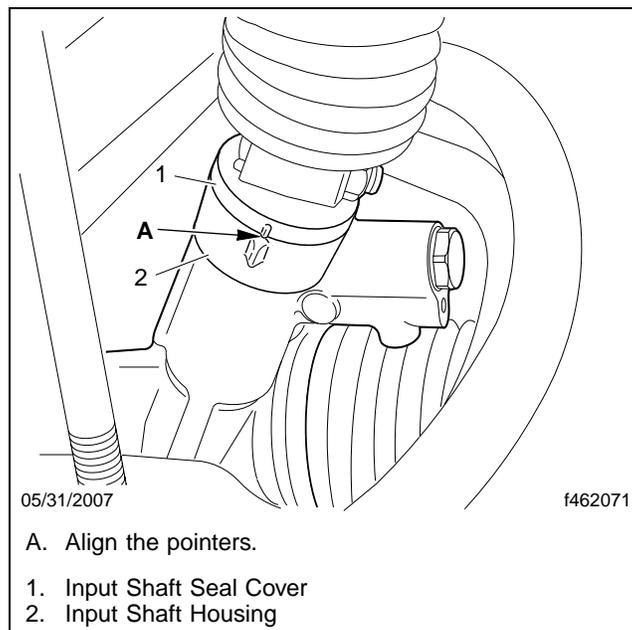

Fig. 11, Pointer Alignment
- 36.2 Align the pointers on the input shaft seal cover and the input shaft housing. See **Fig. 11**.
41.2 With the wheels on turnplates, center the rack travel by aligning the timing pointers on the input shaft seal cover and the input shaft housing. See **Fig. 11**.